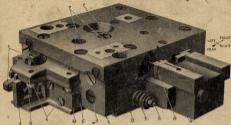
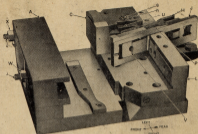

FIGURE 2
FIGURE 3
24 Remove the lower MOLD BLADE (J) and the upper MOLD BLADE (P) (complete with its CARRIER (H), LATCH (I) and SPRING). To do this, hold them together and swing their rear end toward the left so that they form an angle of about thirty-five degrees with the right face of the left TYPE BLOCK (C) as shown in Fig. 3; then lift them up out of the opening in the SQUARING PLATE (L). If the TYPE-BLOCK SHOE (U) does not come out with the MOLD-BLADE CARRIER, remove it separately.
32 Slip the SHOULDER (U) on to the right end of SCREW (B). Turn the MOLD onto its left side, push the SHOULDER (U) toward the top of the TYPE BLOCK as far as the SCREW (b) will permit. Replace the combined MOLD BLADES in the MOLD in the reverse of the manner in which they were removed (§ 24), slipping the CARRIER (H) over the SHOULDER (U). (See Fig. 3). Be careful that the lower end of LATCH (I) goes into the circular hole in the shell extending from the back of the SQUARING PLATE (Fig. 2) and that the lug on the rear of the left TYPE BLOCK goes into the back end of the POINT BLOCK opening in the MOLD BLADE.
34 Place the POINT BLOCK (V) in position in its opening in the MOLD BLADE. It should have the grooved side up and the hole in it nearest the front of the MOLD and in line with the hole in the left TYPE BLOCK (C), as shown in Fig. 3. If it is too far front it will damage the NICK PIN when the right TYPE BLOCK (O) is pushed on.